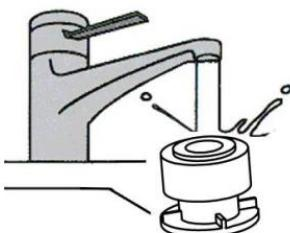

Fig.14
- ※ **The pressure-limiting valve:** pull out the pressure valve by hand and cleaning as Fig. 14